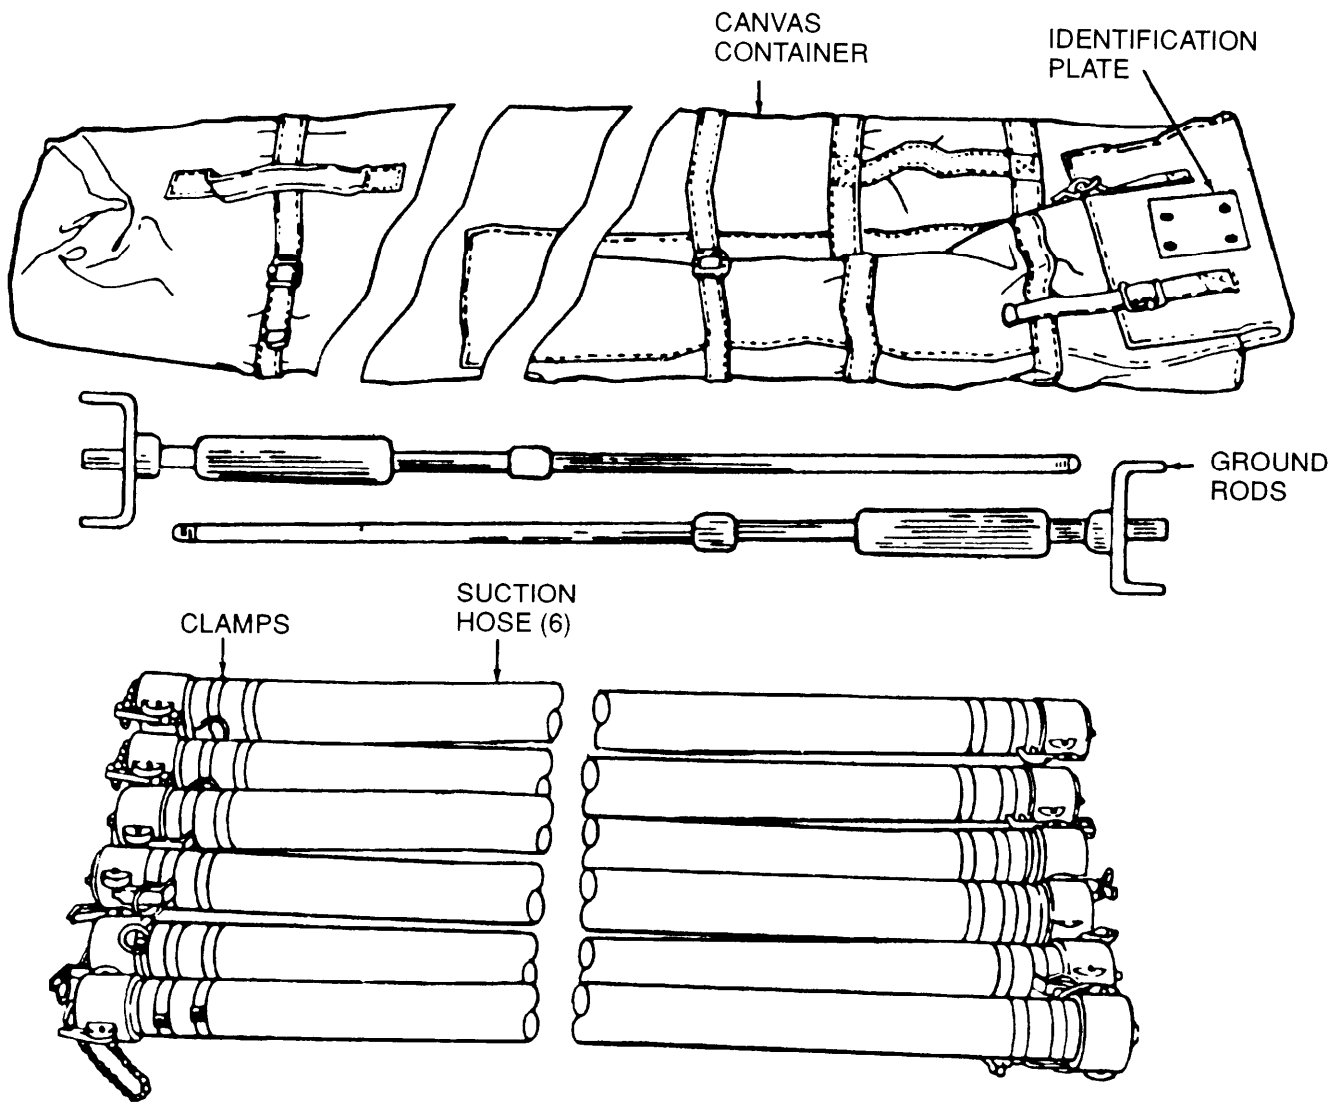

Figure 1-5. Suction Hose Kit.
c. Suction Hose Kit. Refer to Figure 1-5 The suction hose kit consists of six suction hoses, two ground rods, and canvas container.